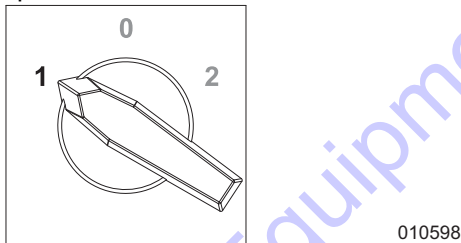

Figure 3-37. Flex Switch—Position 1
- See Figure 3-37. Switch the flex switch (if equipped) to position 1.